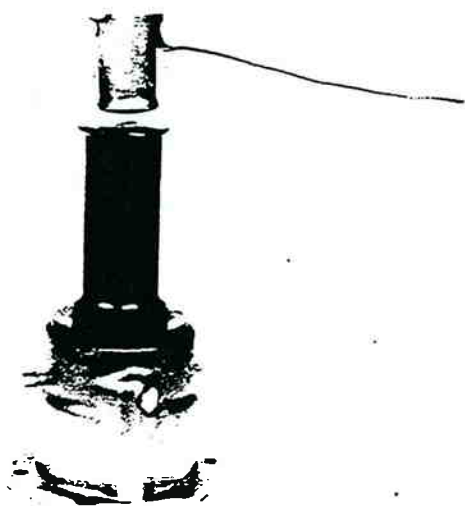

Figure 13-163. Installing Oil Seal.
1. Install new oil seal in rear bearing cover if original seal was previously removed. A spring is visible on one side of seal. Install this side with spring toward front of transmission (figure 13-163).